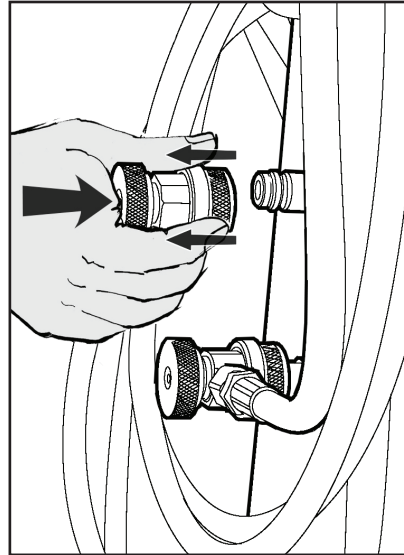

Fig. 8: Unfastening quick-release coupling
- ❗ To remove the service quick-release couplings from the parking/flush coupler, (Fig. 8), press the coupling slightly towards the connection and carefully pull the knurled section back to unfasten it from the coupler.